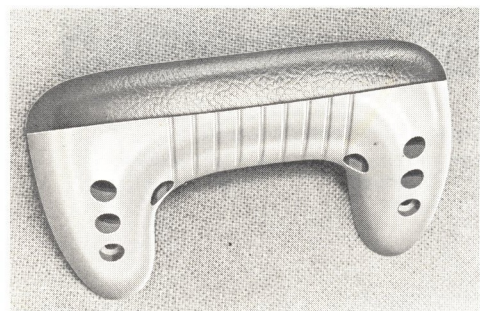

Figure 9. Arm rest, adjustable
23. Armrest. This can be adjusted to three different positions by means of the fastening screws. See Figure 9.